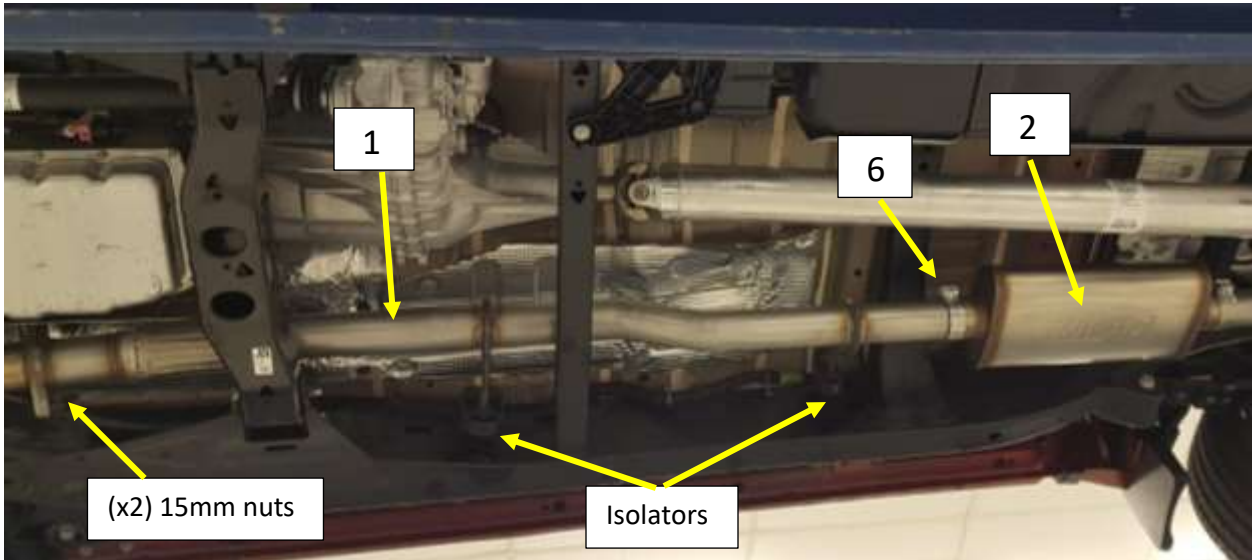

Figure 5
8. Install the Flowmaster Muffler inlet pipe **(1)** into the vehicle and on to the studs at the catalytic converter 2-bolt flange. **Fig. 5**
9. Install the hanger rods into the isolators. **Fig. 5**
10. Install the (2x) 15mm nuts on to the studs at the 2-bolt flange and tighten. **Fig. 5**
11. Install a supplied 3.0" band clamp **(6)** on to the muffler inlet with the bolt at the top and the nut facing the ground. **Fig. 5**
12. Install the muffler **(2)** on to the muffler inlet pipe and level with the ground and Flow FX Logo running front to back. Tighten the clamp to allow for adjustment. Support the muffler with a jack stand. **Fig. 5**